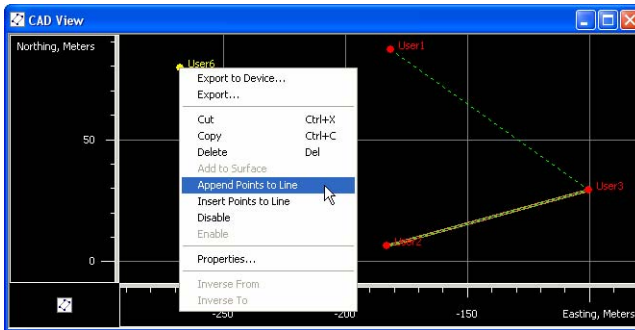

Figure 5-34. Appending Points Using the Pop-up Menu
- Right-click the desired point in the Cad View and click **Append Points to Line** on the pop-up menu (Figure 5-34 on page 5-32). The pointer will change to indicate that ‘append points’ mode has been activated.